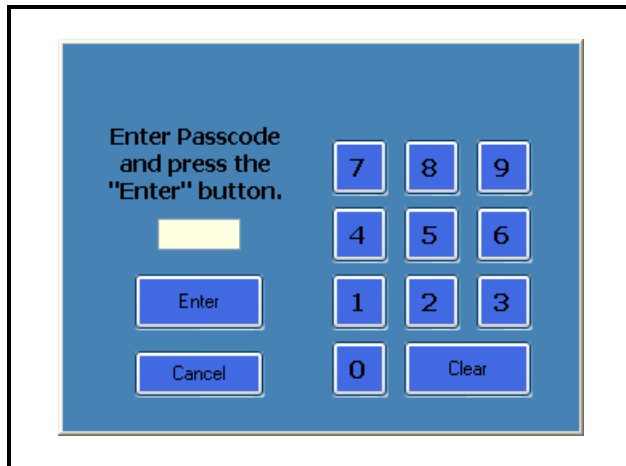

Figure 5-10 - Security Screen Login - Enter Passcode
1. Touch the tool icon  and enter the passcode on the security screen as shown in *Figure 5-10*.